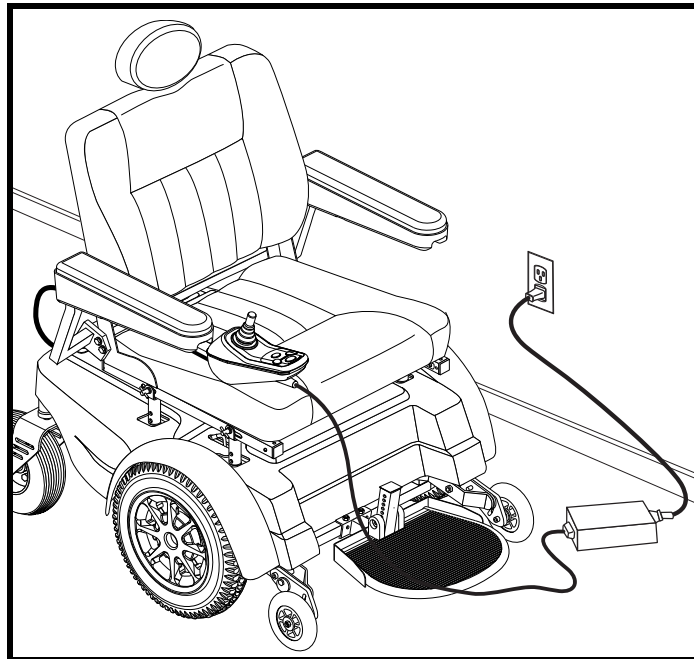

Figure 19. Battery Charging
3. Plug the off-board charger into the off-board charger/programming socket on the controller. See **figure 19**.